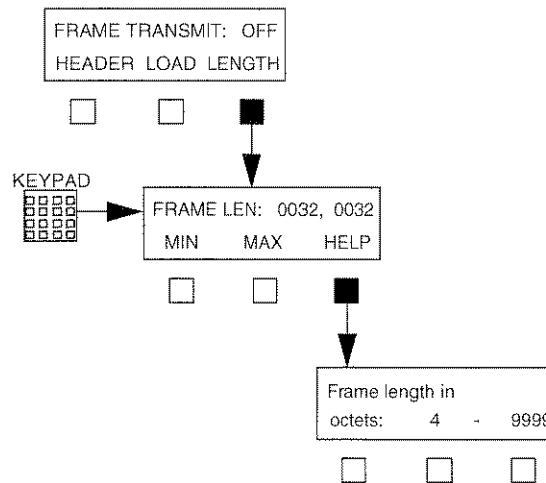

Figure F-7. Frame Length Menu
Press the LENGTH softkey to display the Frame Length menu, as shown in Figure F-7. The Frame Length menu allows you to specify the minimum (4) and maximum (9999) frame length being transmitted. The frame length includes the header and the user data field.